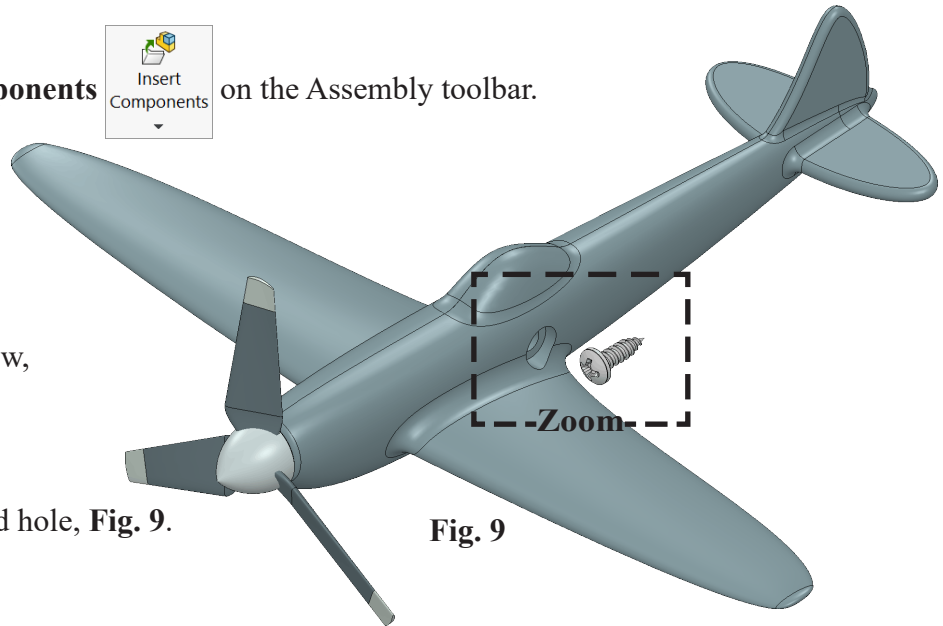

Fig. 9
Step 4. Click to place Screw, **Fig. 9**.
Step 1. Zoom in Screw and hole, **Fig. 9**.